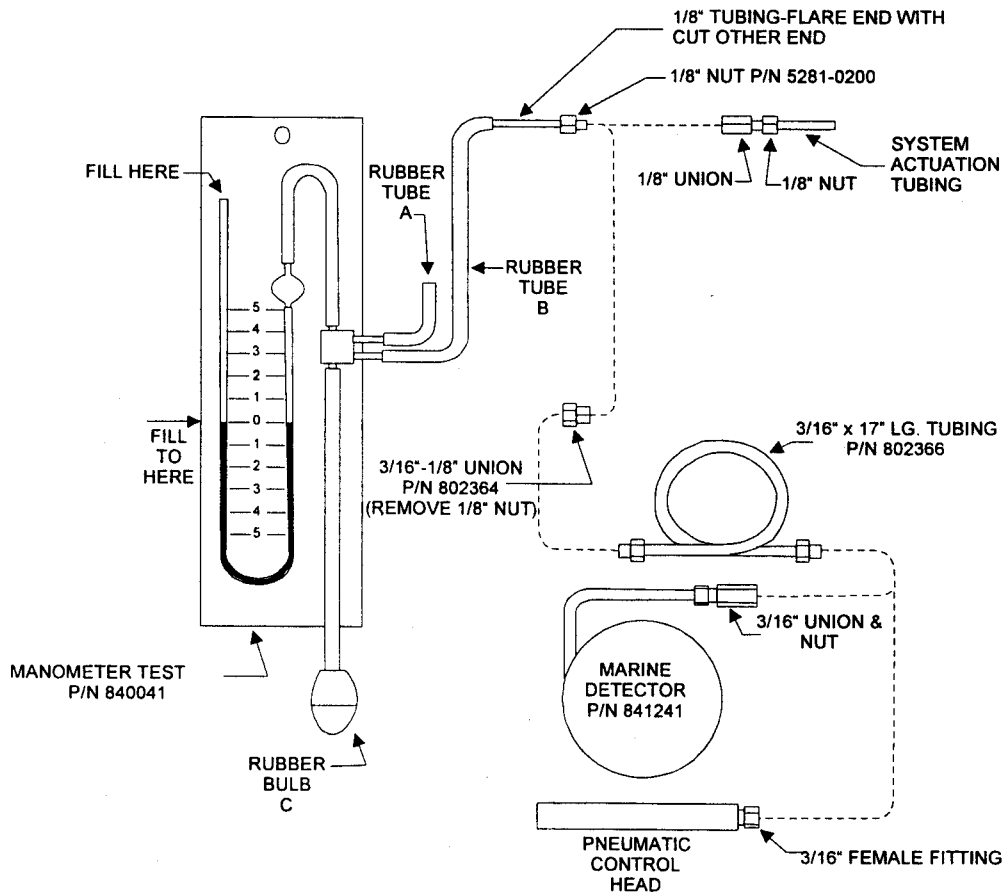

Figure 6.3.5.2.1 Manometer Test Set, P/N 840041
6.3.5.2.1 Pneumatic Control Head Test (pressure setting - see Figure 6.3.5.2.1)
6.3.5.2.2 Control Head Vent Test (see Figure 6.3.5.2.2)